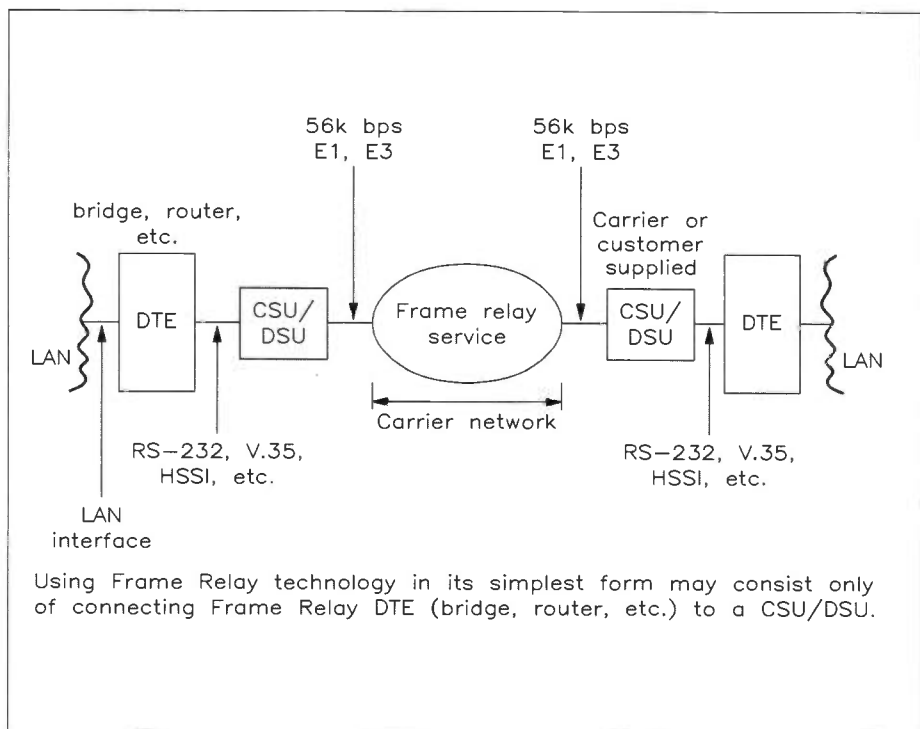

Figure 2. Equipment needed for Frame Relay.
10. Fine, so what type of equipment do I need to be able to use Frame Relay? In its simplest form, you may already have the equipment you need for Frame Relay. Many bridges and routers can be upgraded at little or no extra cost to be Frame Relay compatible. These devices can then use a public service. All you need is the bridge/router, a CSU/DSU, and a line to the service. As an option, some of the carriers even offer to supply the local access line and the CSU/DSU (see Figure 2).